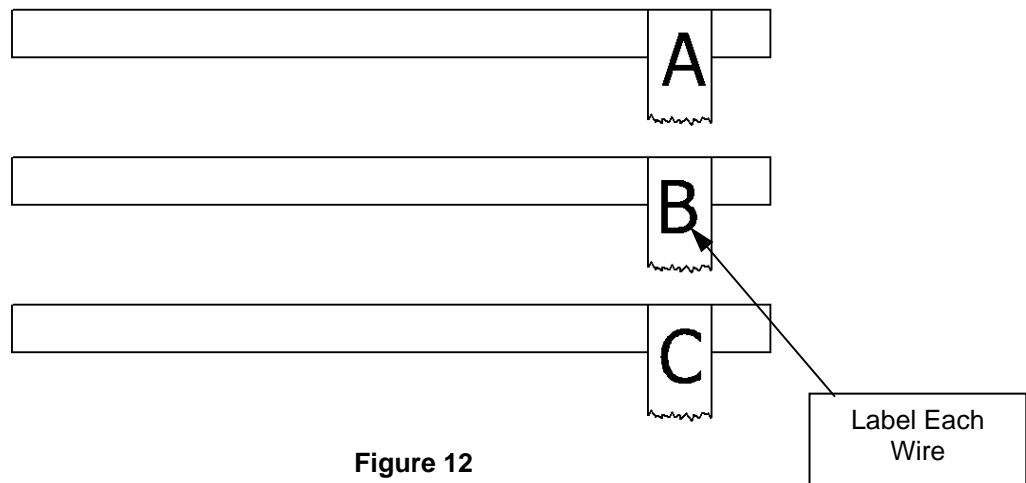

Figure 12
Step 6: Label the (3) cut wires (A), (B), and (C) respectively. Label both ends of the wires. This is shown in Figure 12. Masking tape can be used to label the wires.